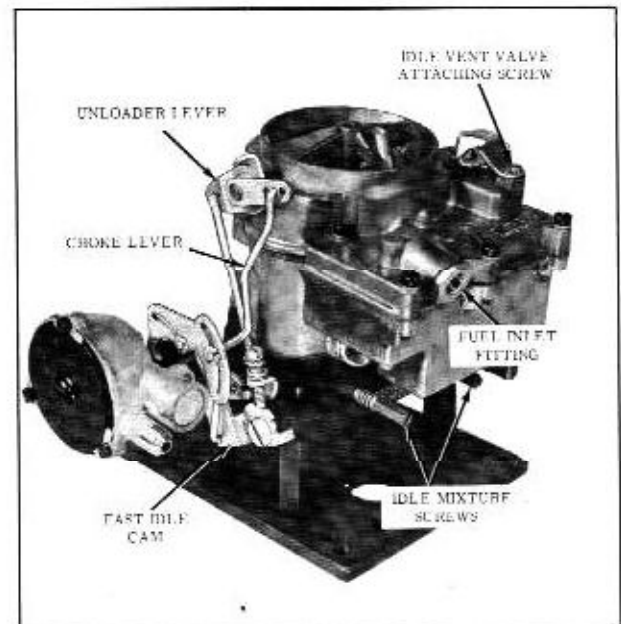

Fig. 8-104 2GC Carburetor
1. Mount carburetor on Holding Fixture BT-30-14 or J-5923-B. (Fig. 8-104)